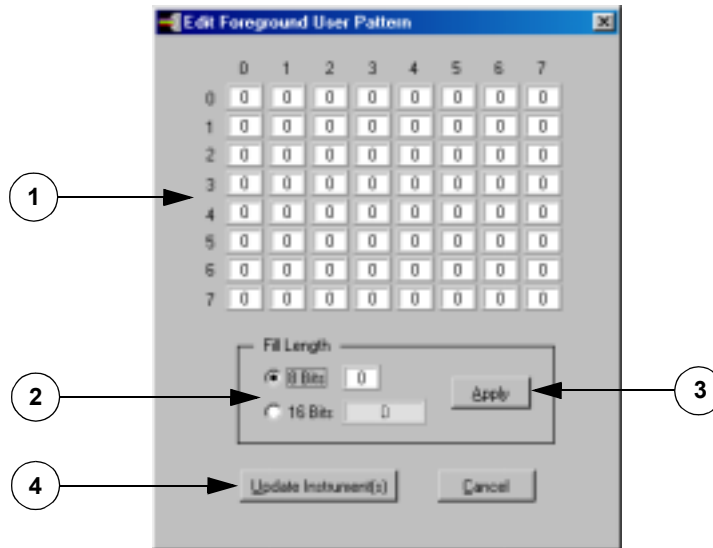
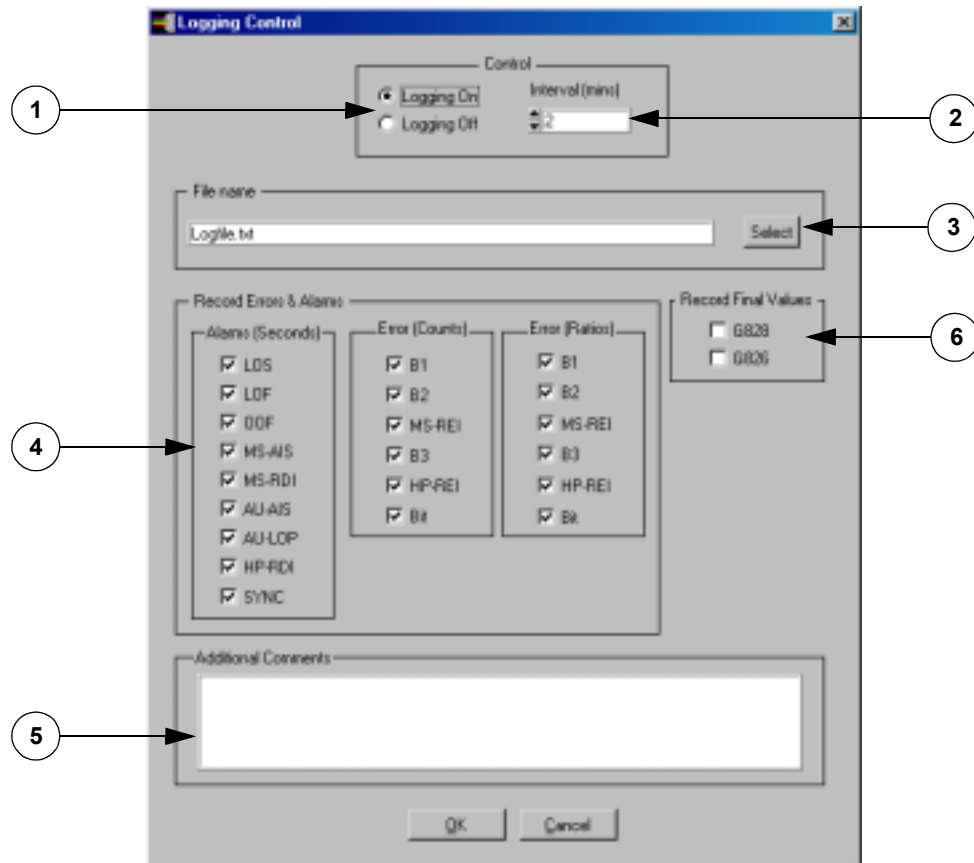

Figure 3-18. Edit Foreground User Pattern
Figure 3-19. Logging Control
| <ol style="list-style-type: none"> 1 Couple this receiver module to a particular transmitter module. (The receiver settings will be set to those of the transmitter.) 2 Select a receiver module. 3 Select the framing format. 4 Select the transmission rate. 5 Select the mapping mode. 6 Select the mapping. 7 Invert the signal. 8 Descramble the frame. 9 Select the payload. 10 Invert the payload. | <ol style="list-style-type: none"> 11 Edit the user pattern when the payload (9) is set to User, see Figure 3-18. 12 Select the payload channel. The channel selection range depends on the mapping selected (5). 13 Select the payload AU3 channel when the payload (6) is set to VC3. 14 Set up logging, see Figure 3-19. 15 Set up the gating time, see Figure 3-20. 16 Start gating*. |